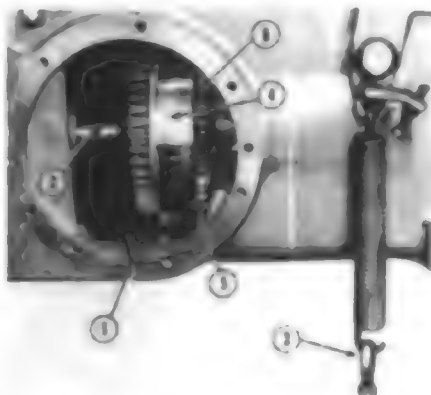

Fig. 162 - Roll pin to be removed from pto clutch to pull the 1000 rpm output shaft (dual speed) or lower pto drive shaft (single speed).
128. To remove pto clutch, drain the rear main frame, then remove the side pto cover. Refer to Fig. 162 and drive roll pin (1) from the clutch and 1000 rpm output shaft (dual speed) or lower pto drive shaft (single speed). Remove the lower bearing flange on rear of main frame. Refer to Fig. 163 and remove shaft (10). If tractor is not equipped with a 1000 rpm shaft that protrudes, there will be a lower pto drive shaft located in the same position as the 1000 rpm shaft. Lower drive shaft will not protrude and will have a bearing cap. After the 1000 rpm shaft or lower drive shaft is pulled rearward, the pto clutch can be removed. Refer to Fig. 164 and using a